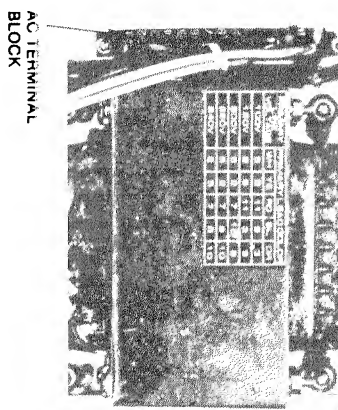

Figure 2. Location of Voltage Selection Terminal Block
3. Locate the voltage selection terminal block between the side of the chassis and the power transformer. Refer to Figure 2 for details.